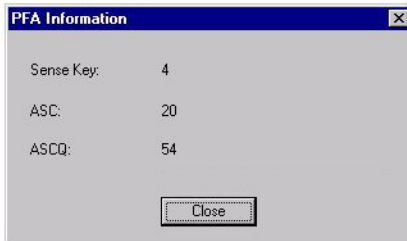

Figure 5-12. PFA Information Window
2. Click OK (see Figure 5-12) to end the locate operation and return to normal status.
The PFA Count shows the amount of device errors registered. Click the PFA Information button to display the PFA sense code details (Figure 5-12).